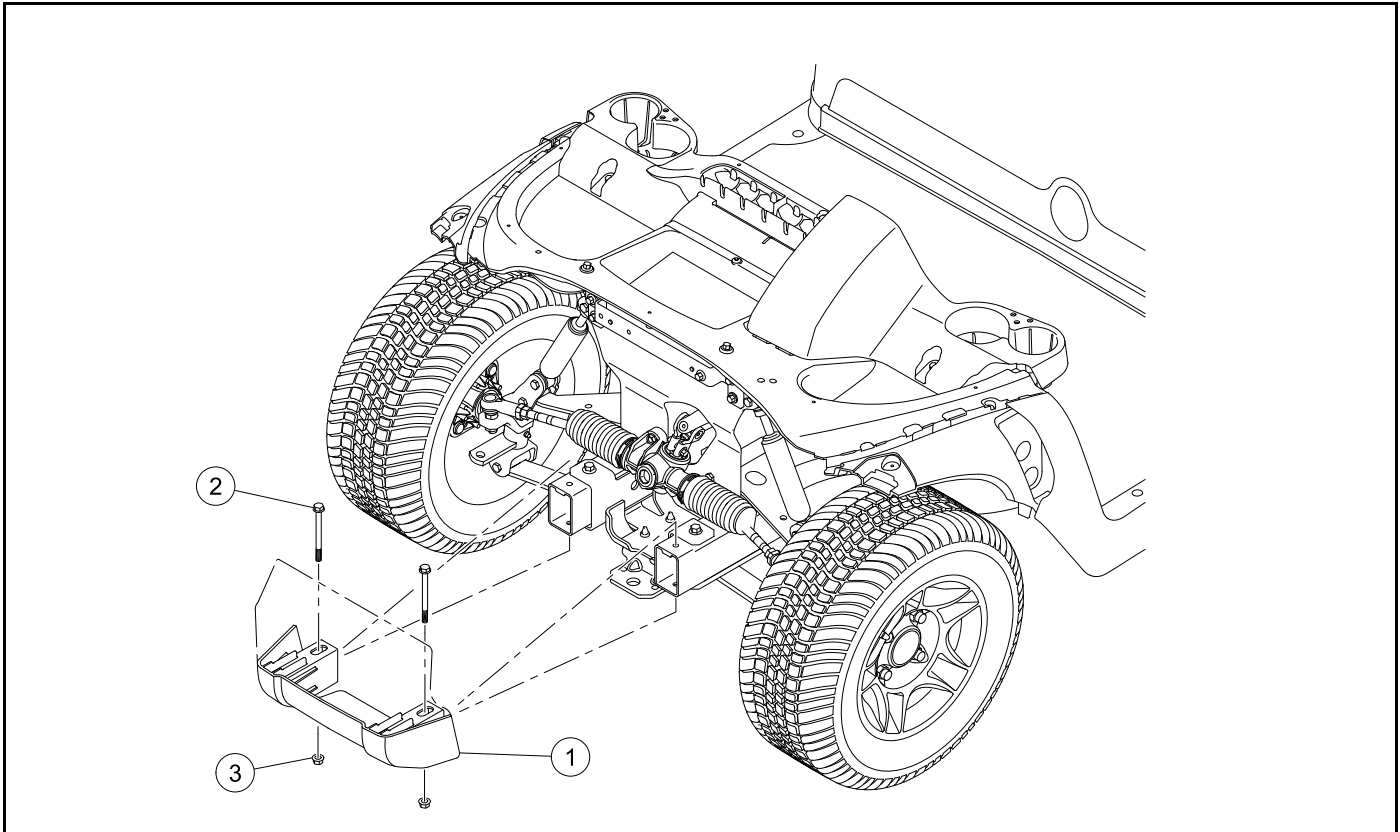

Figure 4-4 Front Bumper
1. Remove the nuts (3) (**Figure 4-4**).
2. Remove the bolts (2).
3. Remove the front bumper (1).
1. Align the front bumper (1) onto the frame (**Figure 4-4**).
2. Install the bolts (2) and nuts (3).